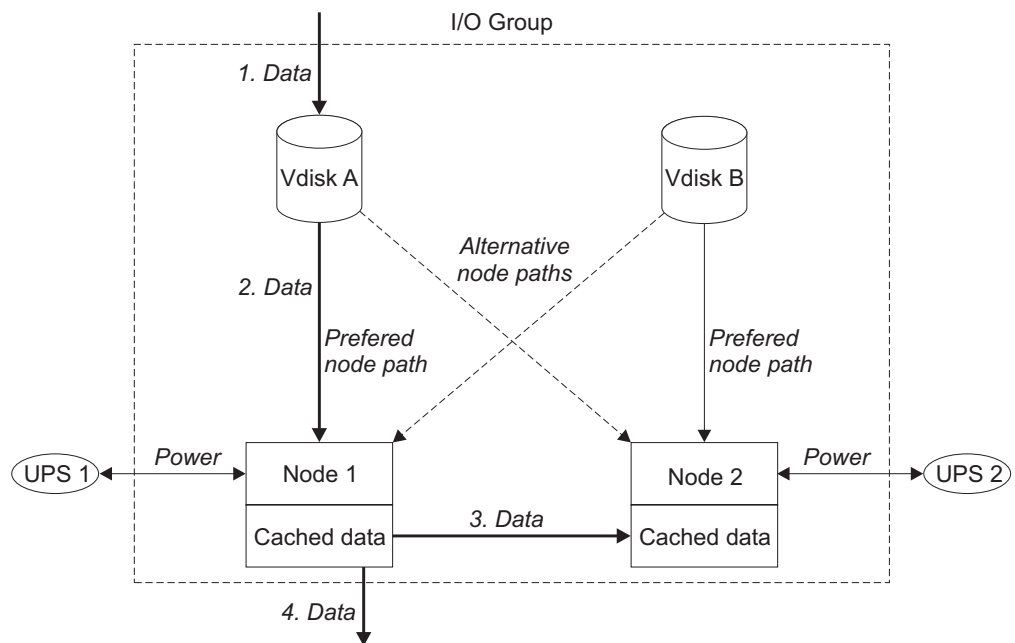

Figure 9. I/O group and UPS
Figure 9 shows a write operation from a host (1), that is targeted for VDisk A. This write is targeted at the preferred node, Node 1 (2). The write is cached and a copy of the data is made in the partner node, Node 2's cache (3). The host views the write as complete. At some later time, the data is written, or de-staged, to storage (4). Figure 9 also shows two UPS units correctly configured so that each node is in a different power domain.